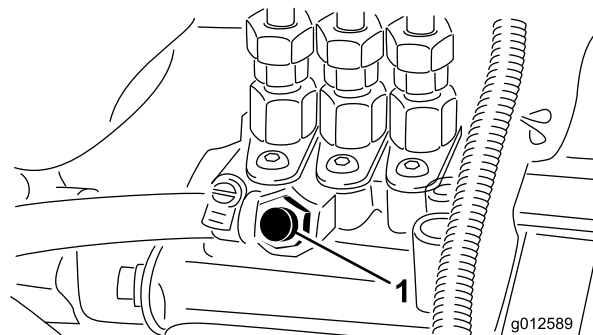

Figure 34
5. Open the air-bleed screw on the fuel-injection pump (Figure 34).